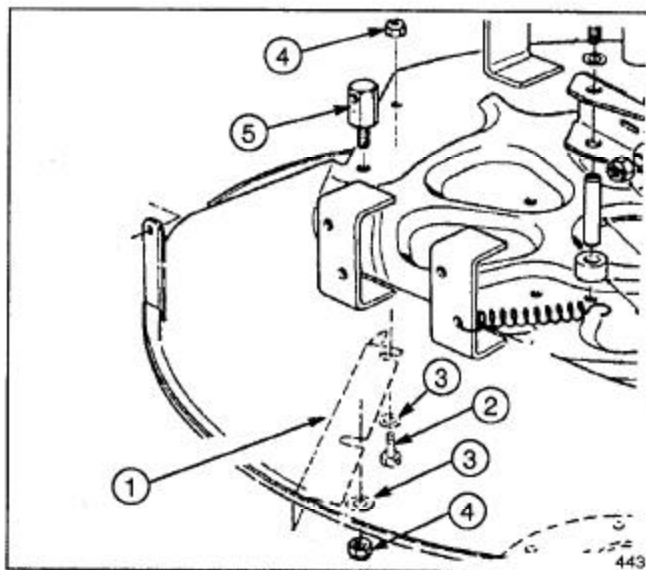

Figure 3
REMOVE DECK BAFFLE (Fig. 3)
- **SIDE DISCHARGING OR BAGGING**—To side discharge or use bagging attachment, remove the wingnut securing the plastic discharge cover to the grass deflector. **NEVER REMOVE THE GRASS DEFLECTOR FROM THE MOWER HOUSING.** If the complete kit is removed, reinstall the deck baffle (Fig. 3).